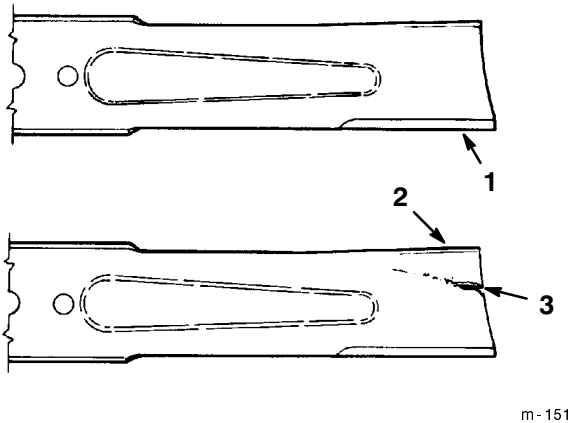

Figure 43
1. Inspect the cutting edges (Fig 43). If the edges are not sharp or have nicks, remove and sharpen the blades. Refer to Sharpening the Blades on page 38.
2. Inspect the blades, especially the curved area (Fig. 43). If you notice any damage, wear, or a slot forming in this area (item 3 in Fig. 43), immediately install a new blade.